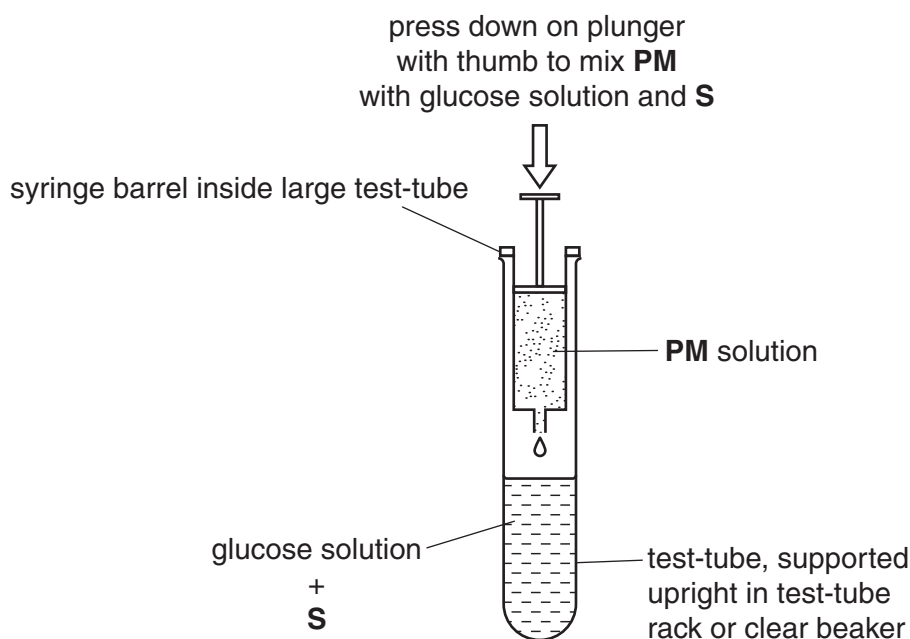

Fig. 1.2
- Using the syringe labelled **PM**, put 2cm^3 of **PM** into the test-tube containing the lowest concentration of glucose solution as shown in Fig. 1.2.